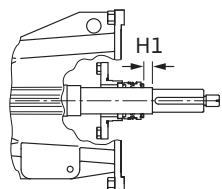

Fig. 31: Version with mechanical seal
- Push the fixing ring (5.3) onto the shaft and mount under the observation of the installation dimension H1 and the tightening torque (see Fig. 31 and Tab. 9).